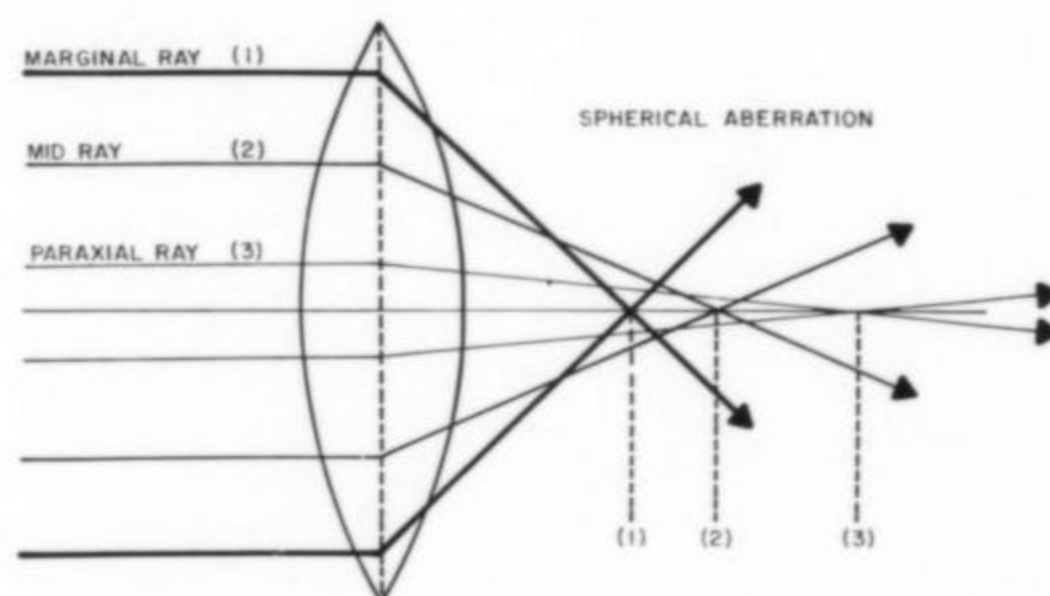
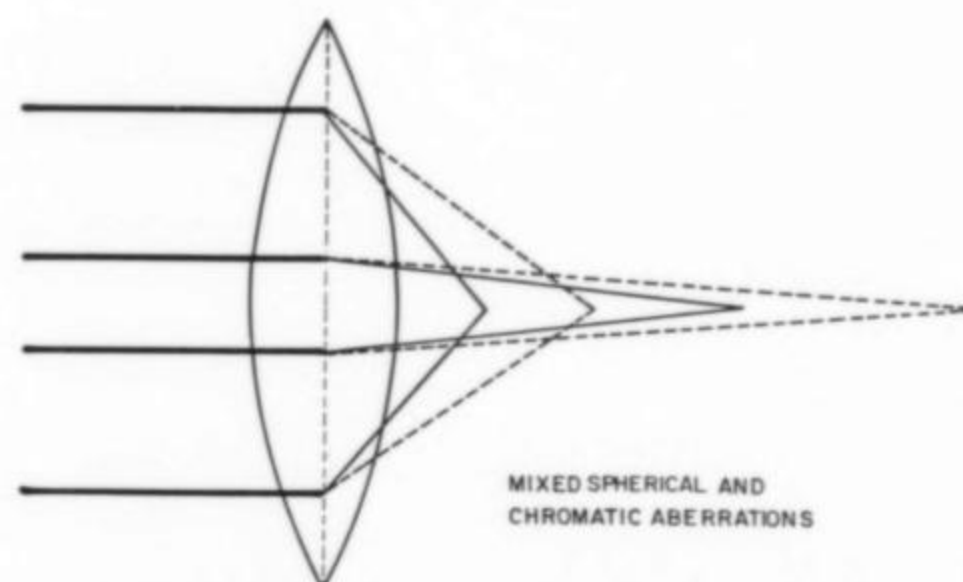

Figure 6. Variation in focal point with distance from optic axis.
Figure 7. Combination of lens faults.
**THREE:** Because each side of our simple lens is a section of a sphere (that's how they are made), light falling on the surface of the lens at different heights above the axis is bent at different angles, and arrives at the axis at different points (Fig. 6). This is known as spherical aberration. When it combines with chromatic aberration it gives the simple lens some very fuzzy and colorful effects (Fig. 7).